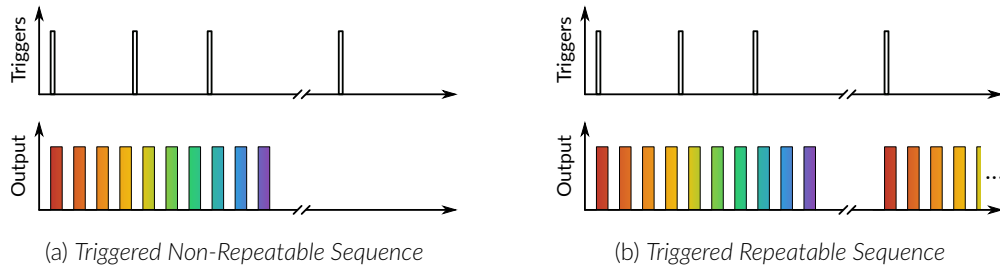

Figure 4.3: Uninterrupted Sequence Mode
- **Uninterrupted:** This mode activates the channel sequence when an input greater than 3.3 V is detected by the BNC input. Following input pulses will be ignored while the sequence is running (Fig. 4.3). When the **Repeatable sequence** checkbox is checked, the sequence will restart with the arrival of the first input pulse after the sequence has finished (Fig. 4.3b). This mode is available for *Triggered* pulse only.